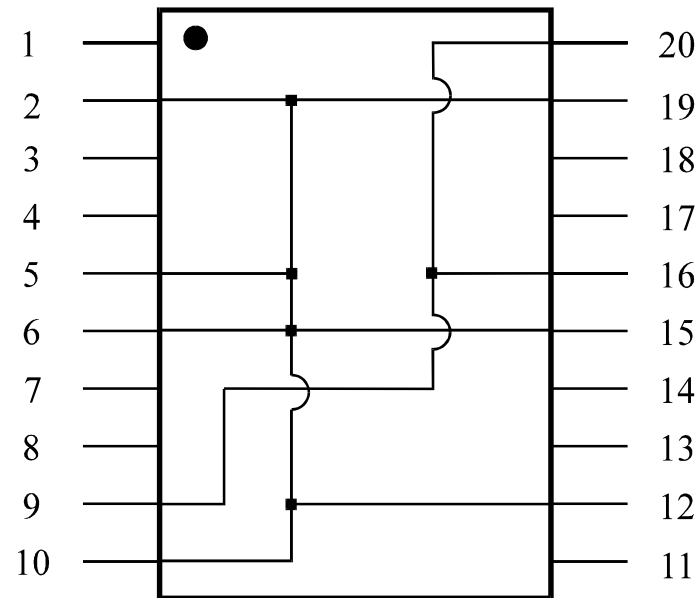

Fig. E-2: Header U28
3. Construct Header U28 by connecting pins 2, 5, 6, 12, 15 and 19 to ground pin 10. Connect pins 9 and 16 to +5 Volts at pin 20. See Figure E-2 below.